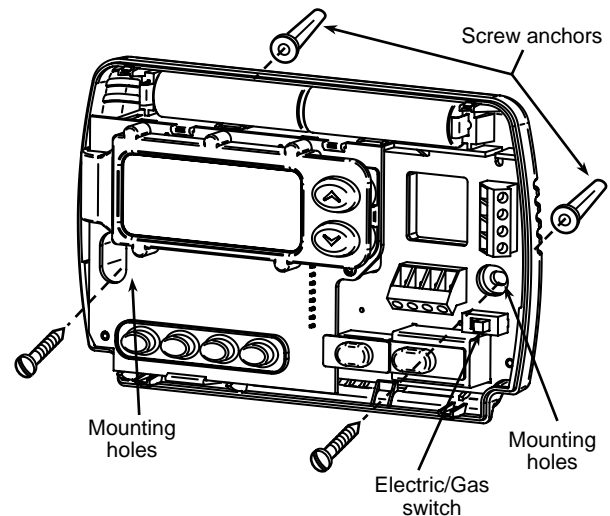

Figure 1. Thermostat Base
This thermostat is configured from the factory to operate a heat/cool, fossil fuel (gas, oil, etc.), forced air system. It is configured correctly for any system that DOES NOT require the thermostat to energize the fan on a call for heat. If your system is an electric heat or heat-pump system that REQUIRES the thermostat to turn on the fan on a call for heat, locate the **ELECTRIC/GAS switch** on the back of the thermostat (see fig. 1) and switch it to the **ELECTRIC** position. This will allow the thermostat to energize the fan immediately on a call for heat. If you are unsure if the heating/cooling system requires the thermostat to control the fan, contact a qualified heating and air conditioning service person.
5. Fasten base loosely to wall, as shown in fig. 1, using two mounting screws. Place a level against bottom of base, adjust until level, and then tighten screws. (Leveling is for appearance only and will not affect thermostat operation.) If you are using existing mounting holes, or if holes drilled are too large and do not allow you to tighten base snugly, use plastic screw anchors to secure subbase.
If "**BATT**" is displayed, the batteries are low and should be replaced with fresh "AA" Energizer® alkaline batteries. To replace batteries, install the batteries along the top of the base (see Fig. 1). The batteries must be installed with the positive (+) end to the left.